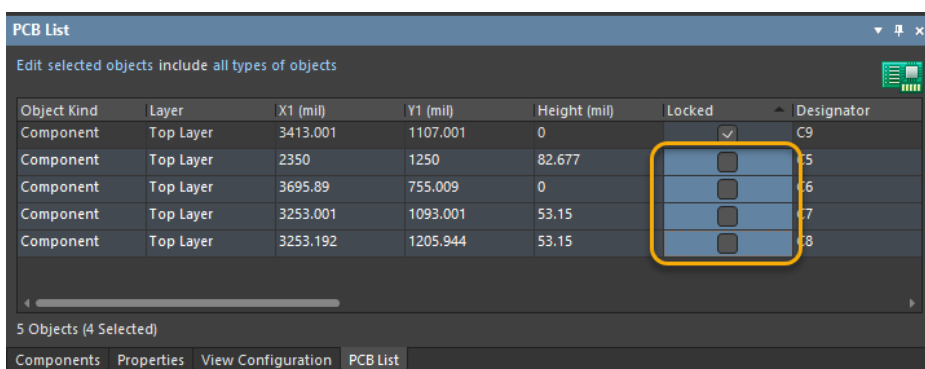

Figure 16. Select Cells
49. Select the locked cells for the remaining four components by clicking on the first unchecked cell, hold the **Shift** key, then click on the last cell as shown in Figure 16 below.